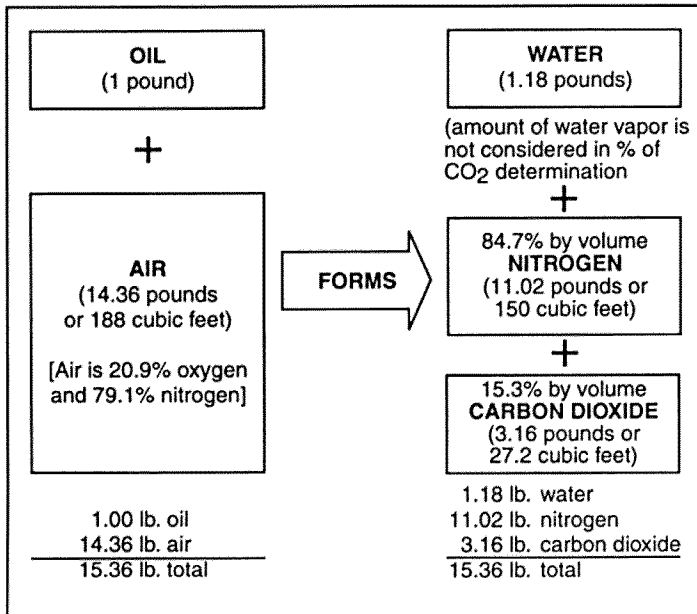
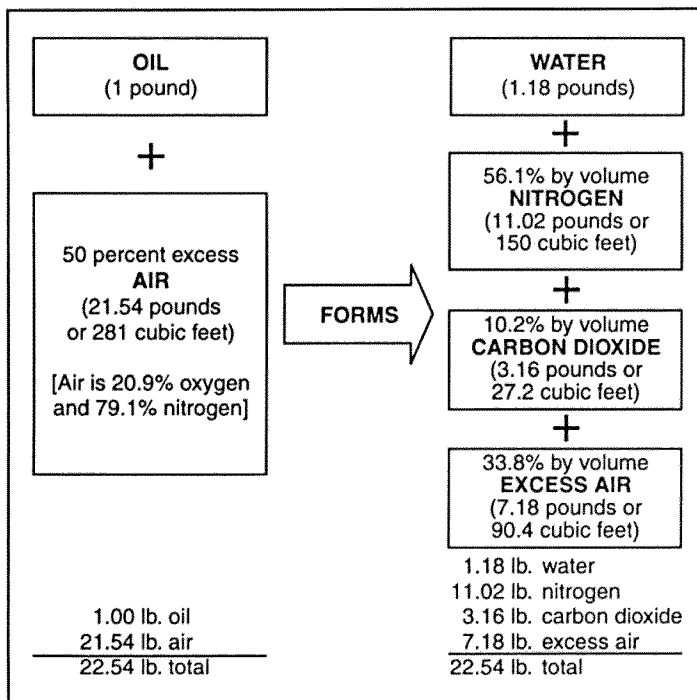

FIGURE 3 Amount by weight and volume of combustion products when 1 lb. of fuel oil is burned (0% excess air)
FIGURE 4 Amount by weight and volume of combustion products when 1 lb. of fuel oil is burned (50% excess air)
If exactly the right amount of air (no excess air) were supplied for complete combustion of the carbon and hydrogen in the fuel oil, the products of combustion would be as indicated in Figure 3. However, with typical oilheat equipment, it is usually not possible to get a perfect mixture in which all the carbon and hydrogen are supplied with the exactly correct quantity of oxygen. To insure that all the carbon and hydrogen come into contact with enough oxygen to burn completely, **excess** air must be supplied. The excess air is simply air over and above the theoretical requirement for the combustion of fuel oil. With excess air needed for combustion, reaction (1) becomes:
This excess air does not react during the combustion process, but enters the heating unit at room temperature and reduces the temperature of the combustion gases so less heat is available to be transferred to the distribution medium. As a result, excess air is a source of heat loss. By introducing 50% excess air, the situation shown in Figure 4 is created.
Compare this with Figure 3. Note that:
- ▼ The amount (weight) of H_2O , CO_2 , and N_2 formed in Figure 4 is the same as that in Figure 3.
- ▼ Percent by volume of CO_2 and N_2 in Figure 4 is less than is formed in Figure 3.
- ▼ Oxygen (as part of excess air) is a product in Figure 4 but not in Figure 3.
In Figure 4, since 20.9 percent of the excess air is oxygen, 7.1 percent of all the combustion gases is oxygen. You determine this by multiplying the percent excess air (33.8%) times that portion of excess air which is oxygen (.209). This gives approximately 7.1 percent oxygen.
Note that in Figure 4 the percentage of CO₂ or O₂ changed from Figure 3 as a result of excess air, therefore, we can use the percent CO₂ or O₂ in the flue as a measure of excess air or vice versa—as a general rule.